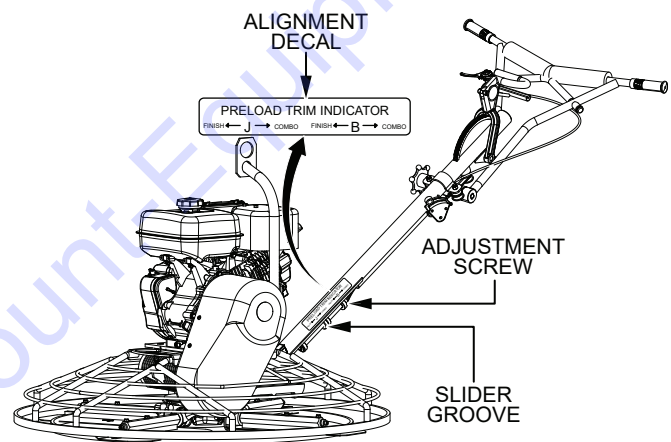

Figure 16. Spring Pre-Load Adjustment
- Locate the spring pre-load adjustment screw (Figure 16) on the underside of the handle tube.
- An alignment decal (Figure 16) is located on the side of the handle tube. Turn the adjustment screw until the slider groove aligns with the letter "B" on the decal.